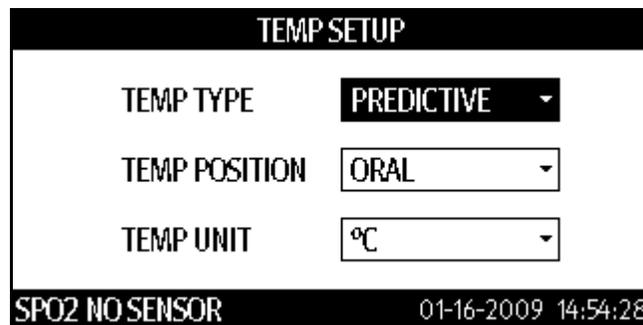

FIGURE 6-14 Example TEMP SETUP dialog
4. Once **TEMP SETUP** is highlighted, press  to display the **TEMP SETUP** dialog as shown in FIGURE 6-14.